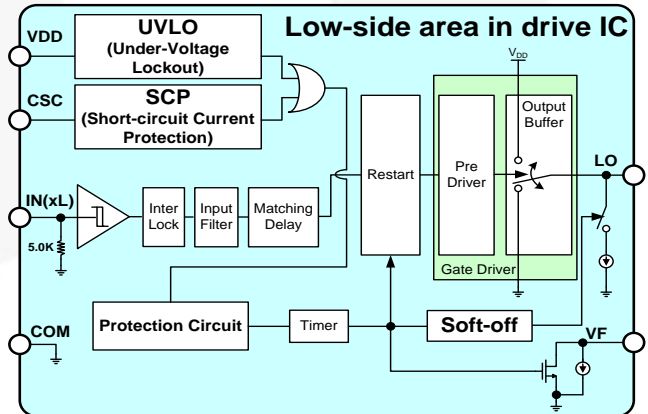
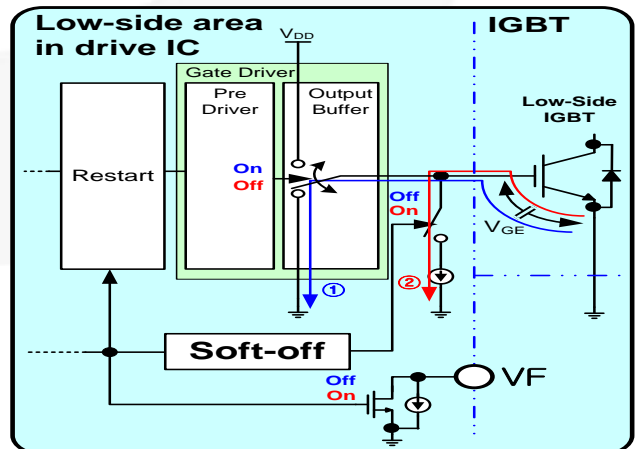

Figure 21. Internal Block Diagram of Gate Drive IC
Figure 22. Operating Sequence of Soft Turn-Off
An internal block diagram of low side and operation sequence of soft turn-off function are shown in Figure 21 and Figure 22. This function operates by two internal protection functions (UVLO and SCP). When the IGBT is turned off in normal conditions, gate drive IC turns off the IGBT immediately by turn-off gate signal ($IN_{(XL)}$) via gate driver block. Pre-driver turn-on output buffer of gate driver block, path ①. When the IGBT is turned off by a protection function, the gate driver is disabled by the protection function signal via output of protection circuit (disable output buffer, high-Z) and output of the protection circuit turn-on switch of the soft-off function. V_{GE} (IGBT gate-emitter voltage) is discharged slowly via circuit of soft-off (path ②).